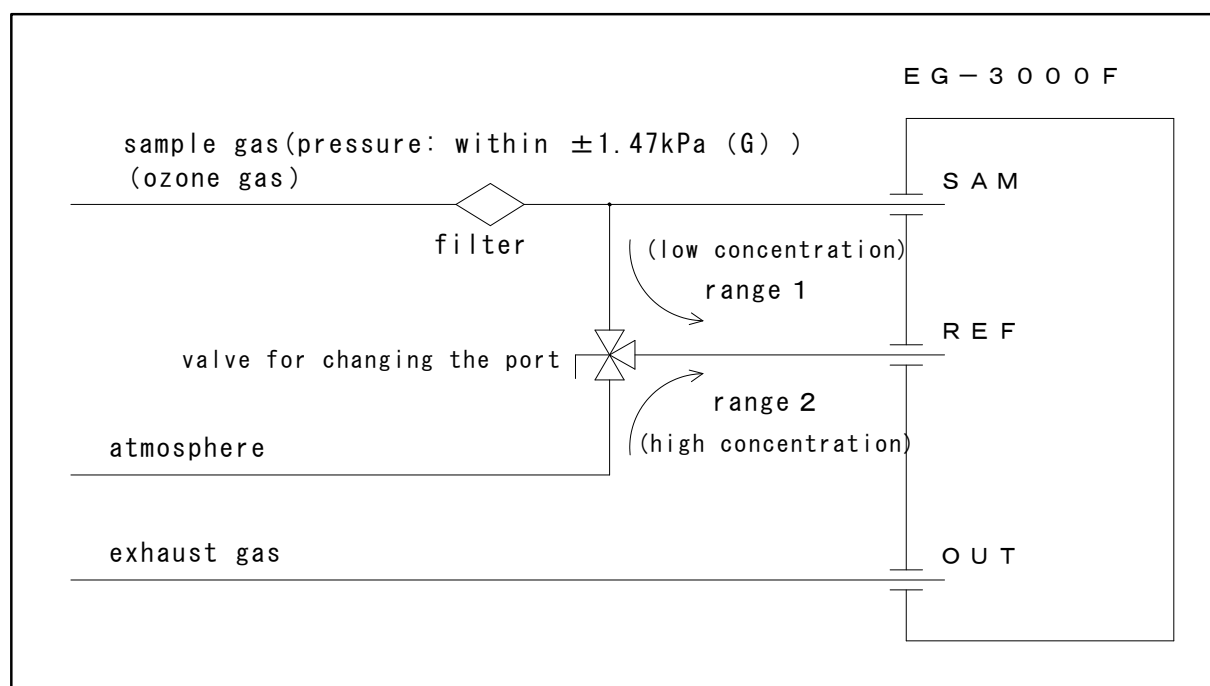

Figure- 16 Measuring flow-line diagram (in case of multi-range)
In case of Model EG-3000F, if you use both internal zero gas generator and atmosphere as zero gas, make pipings to the monitor and another sampling part referring the following, "Measuring flow-line diagram, Figure-16".
- (5) In case of using the multi-range specification, set the range of the monitor itself and switch the corresponding zero gas flow-line by switching valve simultaneously, and then measure each ozone concentration. Please refer to “Figure-16: Measuring flow-line diagram (in case of multi-range)”. Incorrect switching makes not only measurement error but also earlier deterioration of zero gas generator inside of the monitor.